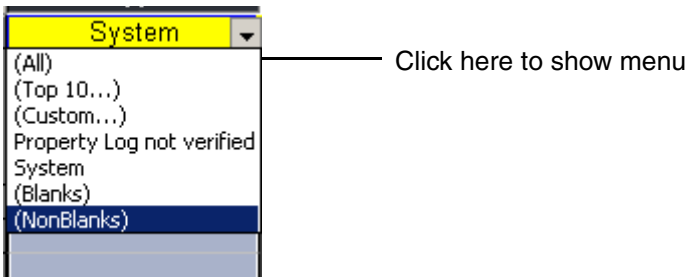

Figure 192. Auto Filter Menu
- 2. Choose **NonBlanks** from the Auto Filter menu, Figure 192.